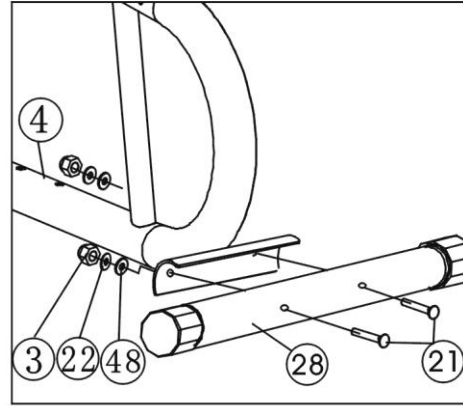

Figure 2
Attach the Rear stabilizer (28) to the Seat cushion adjustor tubinh (4) with two Bolts (21), Flat washers (48)Spring washers (22)and Cap nuts (3). (See figure 2)